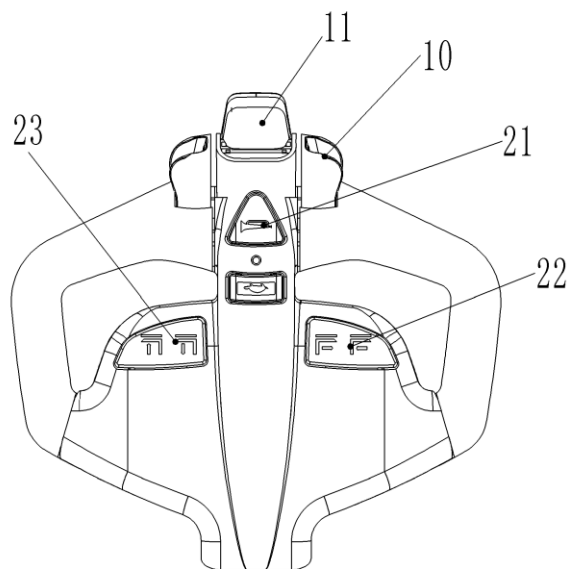

Fig.7: Tiller operating controls
Press the horn button (fig.7, 21) to activate the audible warning signal.
Travel with the lowered forks fully underneath the pallet and press the lifting button (Fig. 7, 23) until you reached the desired lifting height.
Press the lowering button (Fig. 7, 23) carefully.
Press down the forward button(fig.7, 22), mast tilts forward.
Press down the backward button(fig.7, 22), mast tilts backward.
Control the travelling speed by moving the accelerator button (fig.7, 22) carefully until you reached the desired speed.
- By moving the accelerator button (fig.7, 10) back to the initial '0' position or by releasing the button, the regenerative braking is activated. The truck brakes until it stops.
- By moving the accelerator button (fig.7, 10) from one driving direction directly to the opposite direction, the truck brakes regenerative until it starts travelling into the opposite direction.
- The safety (belly) button (fig.7, 11) prevents the operator from being crushed. If this button is activated, the truck decelerates and/ or starts travelling into the backwards direction ('Bw.') for a short distance and stops. Please consider, that this button also operates, if the truck is not travelling and the tiller is in the operating zone.